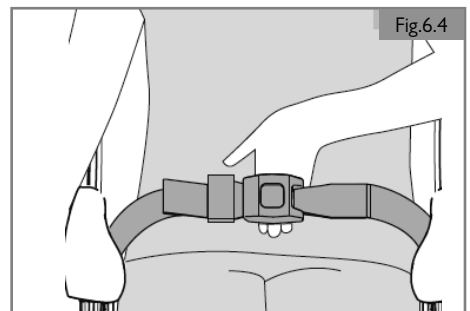

Fig.6.4
8. The hand clearance should be with the lap strap under normal tension and not allow large gaps or loops. (Fig. 6.4)